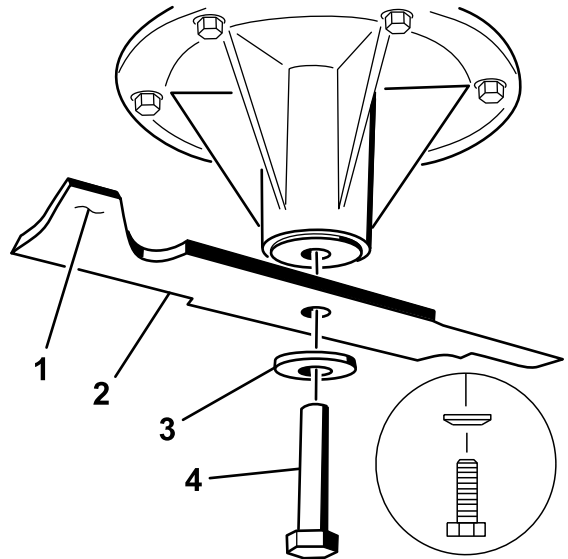

Figure 98
2. Remove the blade bolt, curved washer, and blade from the spindle shaft (Figure 98).
2. Check the balance of the blade by putting it on a blade balancer (Figure 100). If the blade stays in a horizontal position, the blade is balanced and can be used. If the blade is not balanced, file some metal off the end of the sail area only (Figure 98). Repeat this procedure until the blade is balanced.